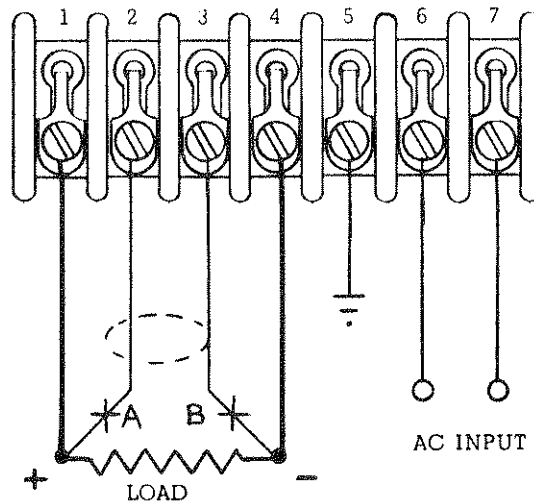

Figure 3-2 Resistance Programming Connections
3. Remove input power. Connect programming resistor per Figure 3-2. Note that either local or remote sense can be used.
4. Connect a precision variable potentiometer or decade box for the programming resistor per Figure 3-2.